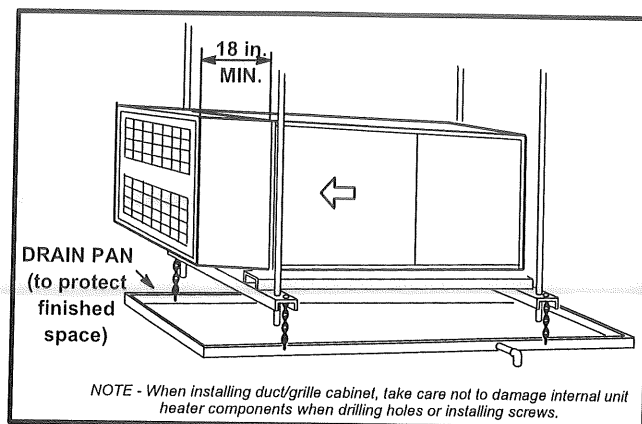

FIGURE 23
ternal components of unit heater when drilling holes or installing screws. See figure 23.
- 4 - Hang drain pan below support frame as shown in figure 23. Route auxiliary drain line so that water draining from this outlet will be easily noticed by the homeowner.
- 5 - Mount unit on support frame as shown in figure 23. Unit must be level to ensure proper coil drainage. Leave 5-1/2 inches for service clearance below unit for condensate trap.